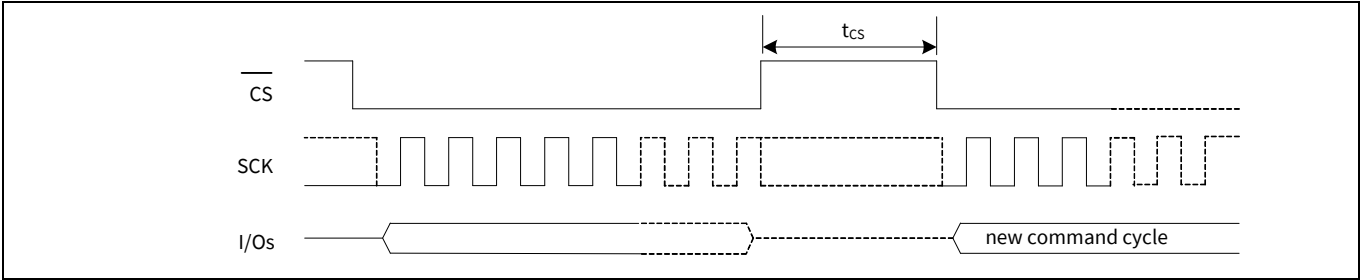

Figure 116 **Chip deselect ($\overline{\text{CS}}$ HIGH) - t_{CS} timing**
21. t_{CS} is the minimum chip deselect ($\overline{CS}$ HIGH) time before the new command cycle starts in a specific SPI mode (SPI, DPI or QPI). This parameter ensures that previous operation is successfully completed before the host starts a new command cycle. Refer to **Figure 116**.
21. t_{CS} is the minimum chip deselect ($\overline{CS}$ HIGH) time before the new command cycle starts in a specific SPI mode (SPI, DPI or QPI). This parameter ensures that previous operation is successfully completed before the host starts a new command cycle. Refer to Figure 116.
25. t_{CS} is the minimum chip deselect ($\overline{CS}$ HIGH) time before the new command cycle starts in a specific SPI mode (SPI or QPI). This parameter ensures that previous operation is successfully completed before the host starts a new command cycle. Refer to Figure 116.